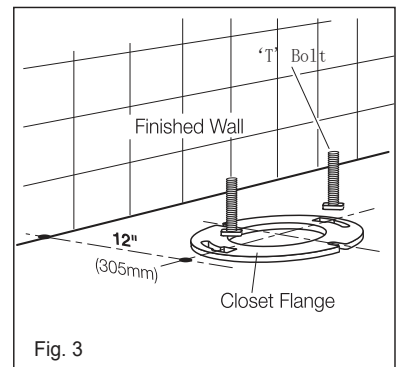

Fig. 3
It is essential for the installation of the SSI No Clog II 0.8 gpf (3.0 lpf) Two Piece Washdown toilet that the closet flange be accurately set out from the finished wall as detailed in Fig.3.
- 1- Position 'T' bolts into closet flange, as detailed in Fig.3.